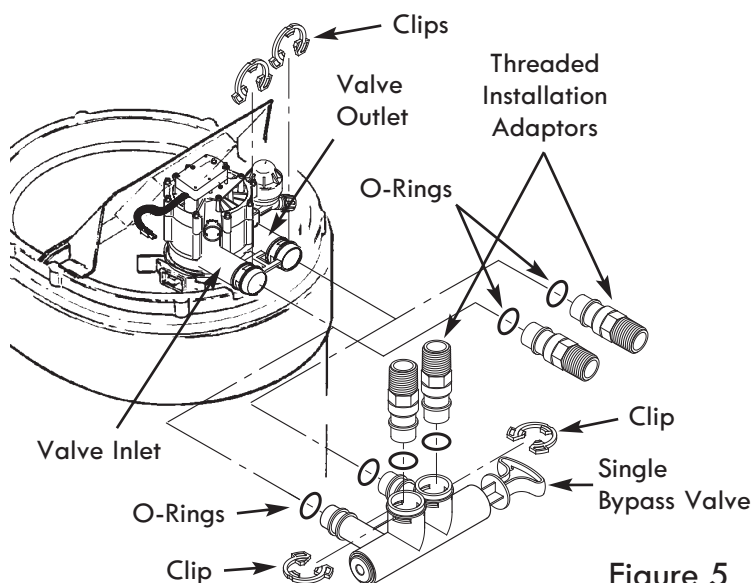
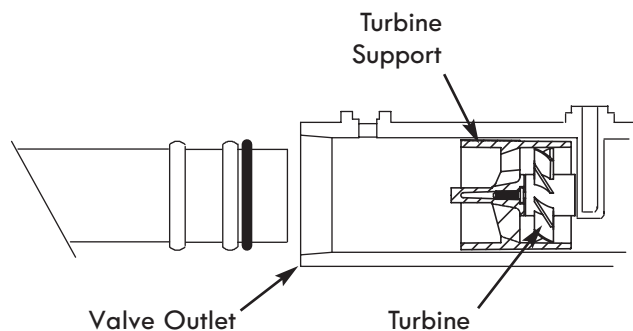

Figure 5
Figure 6
5. Visually check and remove any foreign materials from the valve inlet and outlet ports (see Fig. 5). Carefully remove the two large plastic clips (you will use them). Check to be sure the turbine and support are firmly in place (see Fig. 6).